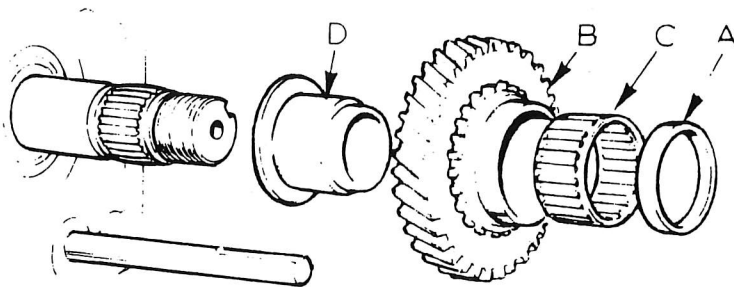

Fig. 41. 5th. GEAR ASSEMBLY
21. Assemble 5th. gear (B, Fig.41) to its hub (D, Fig.41), with its bearing (C, Fig.41) and spacer (A, Fig.41). With assembly inverted (spacer against surface plate,) check end-float between gear and hub flange. This